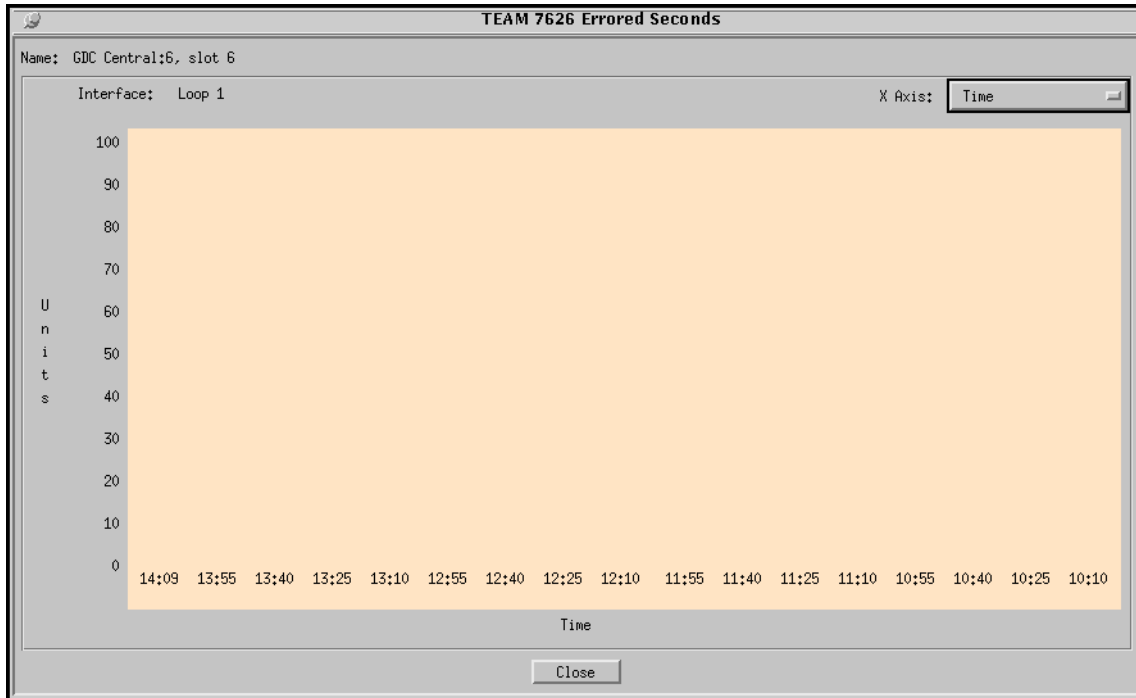

Figure 8-10 Errored Seconds (ES) Window
An errored second (ES) is defined as a second with at least one CRC error event. Figure 8-10 is the basic screen for all individual statistical error categories like UAS, SES, and so forth. Like all other graphs, the Y-Axis scale dynamically changes, depending on the maximum value of a certain interval. The X-Axis option button on the upper right hand corner allows the user to view the X-Axis as a time scale or interval scale, or both. If data has been collected for less than 4 hours, the time/intervals on the X-Axis of the graph are not displayed for the unavailable intervals. You have 17 vertical bar graphs of intervals (current plus up to 16 accumulated). This screen graphically shows the number of errored seconds that have taken place in the last four hours.